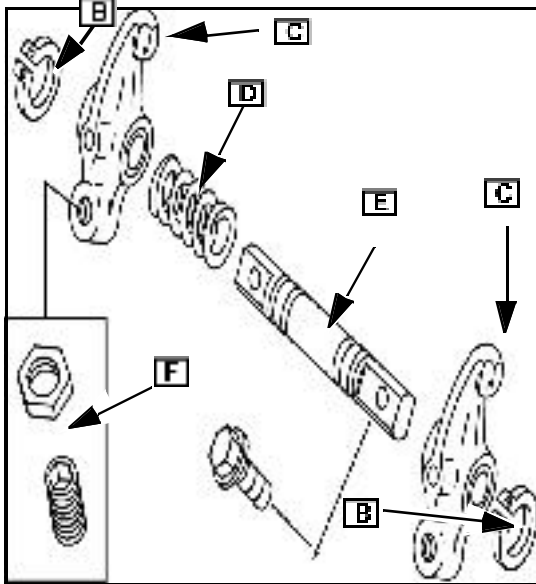

Fig. 4
4. Remove either snap ring ([B] Fig. 4).
5. Remove rocker arms (C) and spring (D) from rocker shaft (E).
- Remove valve adjusting screw and nut ([F] Fig. 4) from rocker arm.